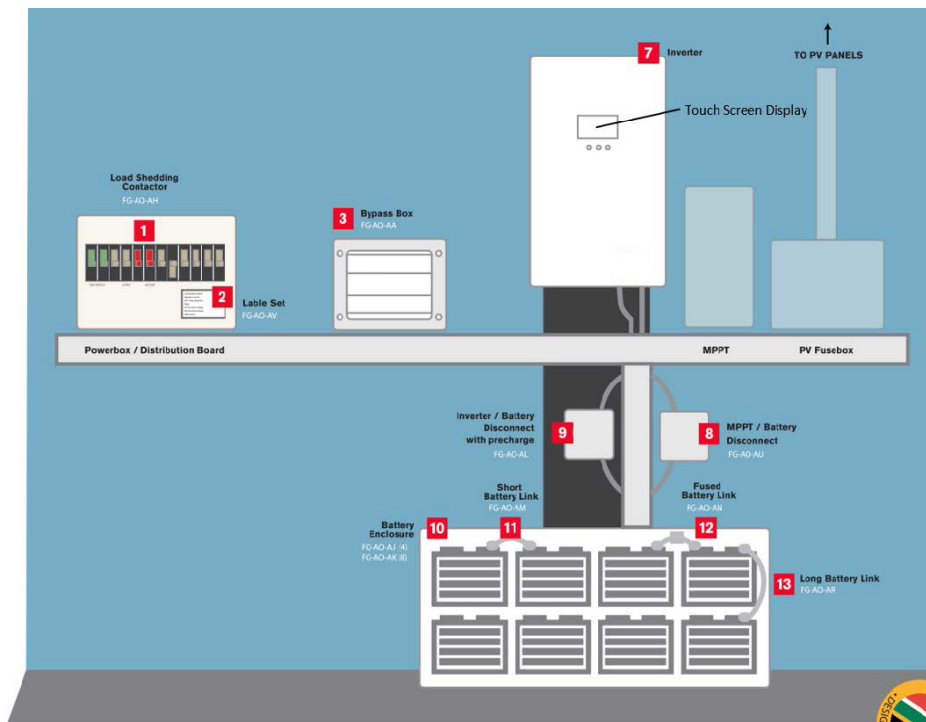

Figure 3. A typical layout of a single-phase Powerstar 10H installation
A typical installation will include the inverter/charger(7), a battery bank(10), a battery cable fuse box(9), and an AC Bypass Box (3). The installation often also includes either some dc-coupled solar chargers or ac-coupled solar grid-tied inverters. An example of such a system is shown in Figure 3.
A typical single-phase installation is shown in Figure 3.